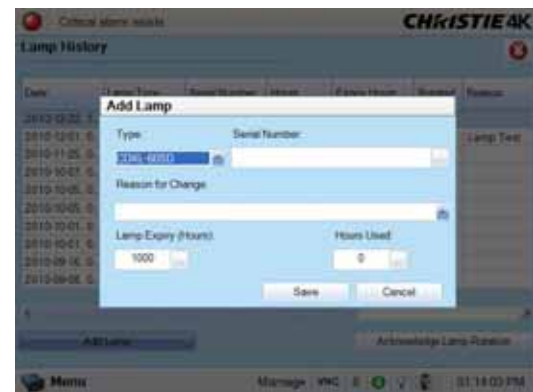

Figure 7-4 Add Lamp Window
18. In the **Advanced Setup: Lamp History** window, click the **Add Lamp** button and record lamp type, serial number, reason for change and number of the hours logged on to the lamp. If the lamp has not been previously used, enter 0. Click **Save** to save the data entered. (Figure 7-4)